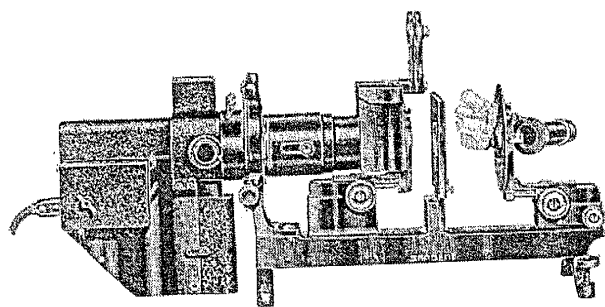
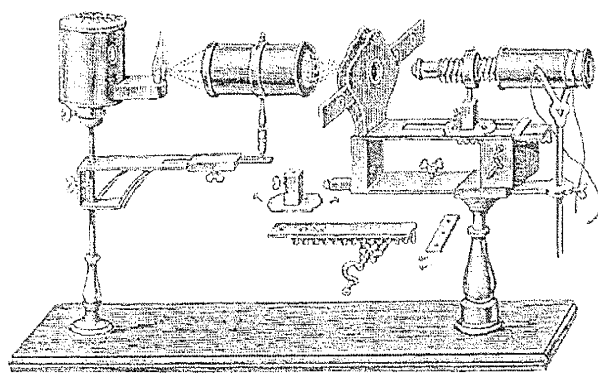

Fig. 2 Microprojector5
Fig. 3 Horizontal microscope7
**THE CUTTING EDGE OF TECHNOLOGY - 17th CENTURY STYLE.** If you have a 20th century Bausch & Lomb model AA microprojector (Fig. 2) in your collection, you may notice a basic similarity to the sketch of the horizontal microscope, (Fig. 3) featured in Bonanni's *Observationes*. In B&L's arc lamp, a clock-feed maintains the proper gap between the carbons to assure uniform intensity of the spark. By contrast, in Bonanni's